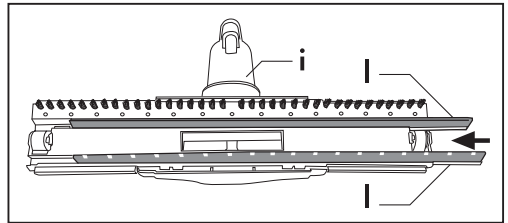

Fig. 8
- Bristled frames (l) are suitable for cleaning loose and fitted carpets, etc. They should be installed to the brush (i) Fig.8